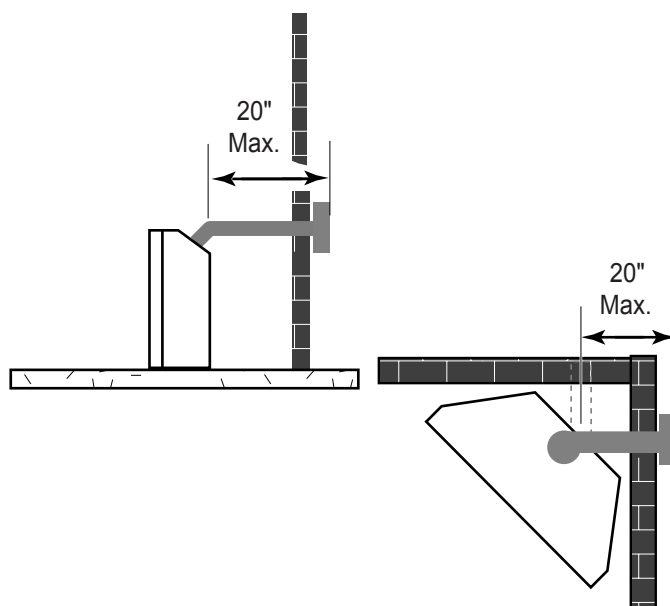
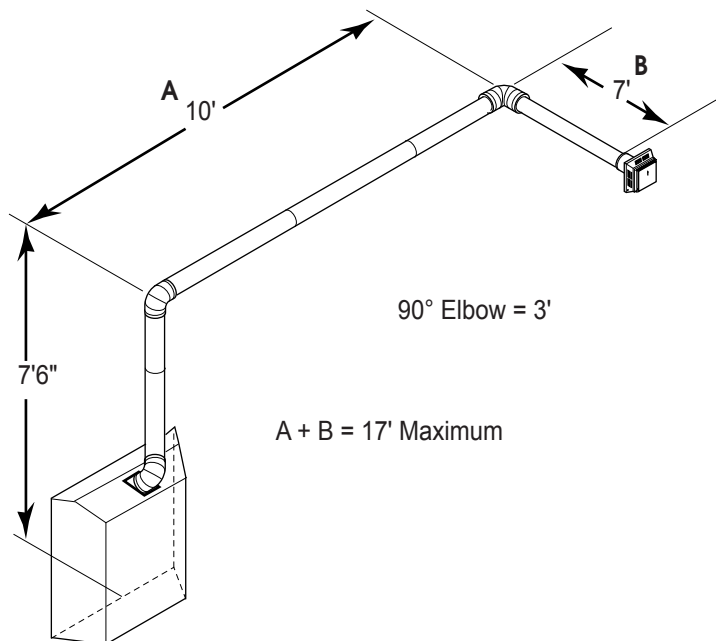

Figure 19 - Maximum Horizontal Run with No Rise
Figure 21 - Maximum Vent Run with Elbows
- If a 90° elbow is fitted directly on top of the fireplace flange the maximum horizontal vent run before the termination or a vertical rise is 36" (914 mm). *See Figure 19.*
- If a 90° elbow is used in the horizontal vent run (level height maintained) the horizontal vent length is reduced by 36" (914 mm) (Fig. 21 A and B) This does not apply if the 90° elbows are used to increase or redirect a vertical rise. See Figure 19.
2. Remove soil to a depth of approximately 16" below base of snorkel. Install drain pipe. Install window well (not supplied). Refill hole with 12" of coarse gravel leaving a clearance of approximately 4" below snorkel. *See Figure 21.*